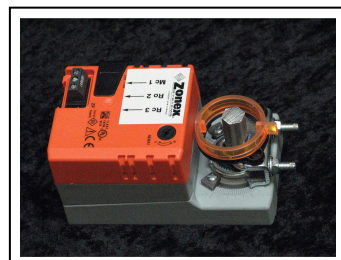

Fig 4
14. Install the white wiring sticker on the actuator and reconnect the wires. **See Fig 4**
10. Install the corresponding wiring sticker (Yellow or White) to indicate the correct polarity on the actuator, and connect the wires from the actuator to the thermostat. Test operation. **See Fig. 4**